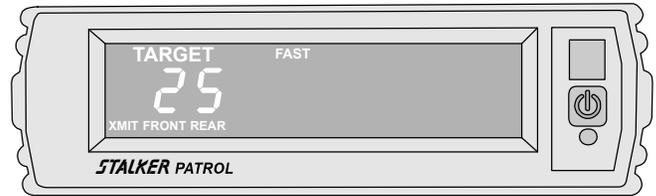

Fig 44
Two (2) tuning forks are supplied for **STALKER PATROL**. The tuning forks are calibrated for 25 mph and 40 mph (40 and 64 kph). To perform the tuning fork test, power the unit ON (press **PWR** switch), select stationary mode (press **MOV/STA** key), select the front antenna (press **ANT** key), and place the unit in transmit mode (press **XMIT** key). Strike the 25 mph tuning fork against a hard nonmetallic surface, such as the heel of a shoe. Quickly hold the tuning fork approximately two (2) inches in front of the antenna, with the narrow edge of the fork facing the antenna. The target window should indicate 25 ± 1 mph (40 kph) (Fig 44). Repeat the above test with the 40 mph (64 kph) tuning fork. Select the rear antenna, if purchased, and repeat both tuning fork tests. *Note: We recommend that the tuning fork test be performed on each antenna. Some departments perform this test both before and after each citation. Check your department policy.*